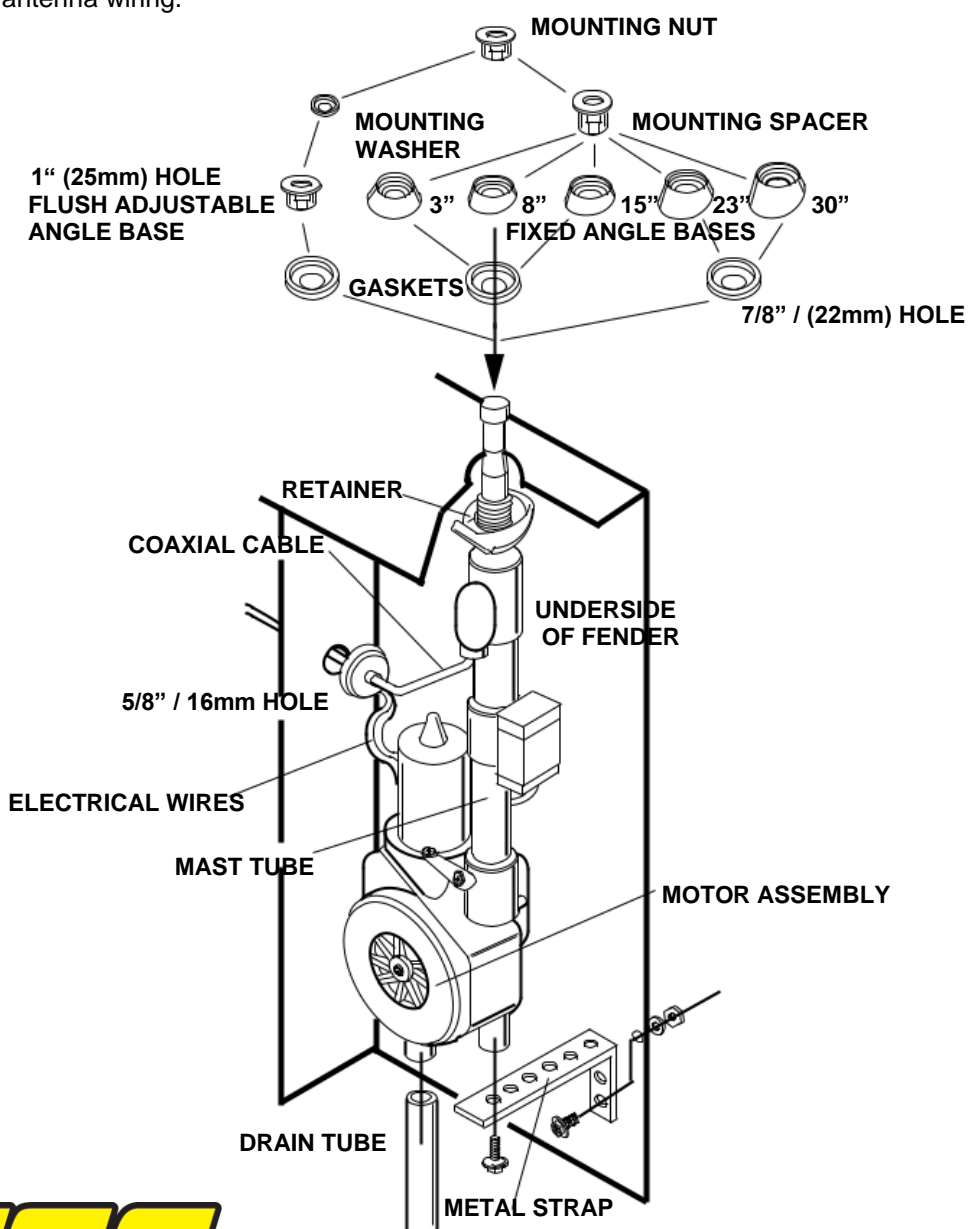

Figure 1
- B) Six mounting bases are provided with the antenna. Five fixed angle and one adjustable angle flush mount base. (See Figure 1).
- C) Remove the installed flush mounting base from new antenna. Select the proper base with correct angle for fender (as shown in figure 1) or reuse original mounting base previously removed from old antenna. NOTE: The five fixed angle bases require a 7/8" / 22mm hole. The adjustable angle flush base requires a 1" 25mm hole.
- F) Install the antenna from the underside of the fender and assemble the base above the fender according to **Figure 1**. BE SURE THE RETAINER RESTS EVENLY ON THE UNDERSIDE OF THE FENDER TO ALLEVIATE ANY POSSIBLE DAMAGE TO THE VEHICLE. Align the mast vertically by slightly tightening the antenna mounting nut while adjusting the mast to be vertical.
I) Attach the drain tube to the bottom of the motor assembly and route to the outside of the car. Avoid any kinks or bends in the tube that may restrict drainage. (as shown in figure 1.)